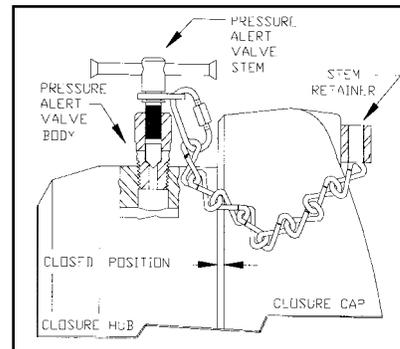

FIGURE No. 1
2. If the closure is equipped with a Pressure Alert Valve (PAV), remove the PAV stem from the PAV body. Screw the stem into the retainer on the cap. See **FIGURE No. 1**.
3. Check that reference marks have been made indicating the “Closed Position” of the cap, as illustrated in **FIGURE No. 1** and **FIGURE No. 2**. If not, make a temporary mark across the back of the cap and hub. Then follow the “**Initial Start-Up**” in **Section Three** for marking the “Closed Position” of the cap. Closures equipped with a Closure Actuator Tool (CAT Tool) contain factory established closed tight reference marks on the hinge socket and cap, as illustrated in **FIGURE No. 2**.
Tighten the cap until the reference marks are aligned as illustrated in **FIGURE No. 1**. This indicates metal-to-metal contact between the cap and hub sealing surfaces.
4. Mark this position on the cap and hub for future reference, as illustrated in **FIGURE No. 1**, to indicate the point at which the seal areas are fully engaged.